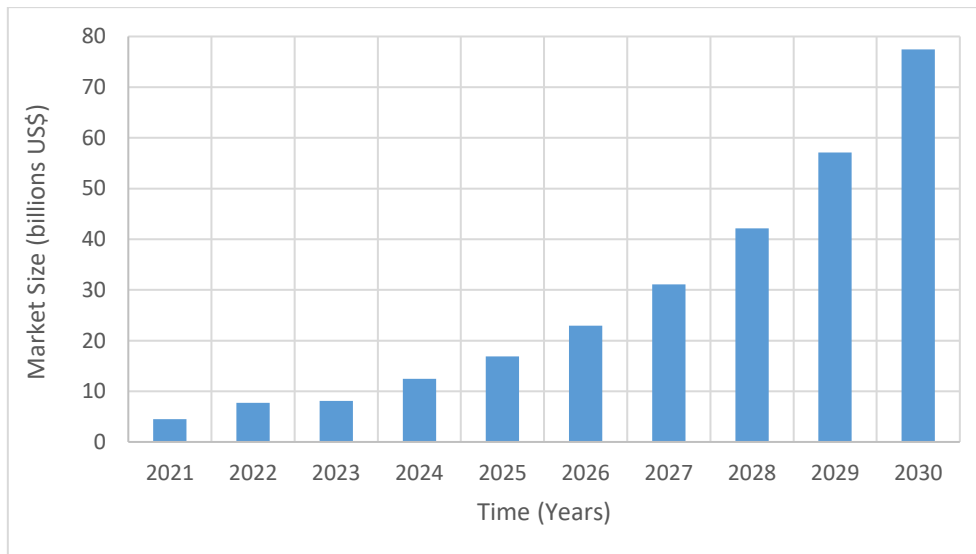

Figure 1. AR and VR Headsets Market Size*
The demand for immersive virtual reality (VR) and augmented reality (AR) experiences continues to accelerate, driven by advancements in display technology, sensor integration, and low-latency processing. Figure 1 shows the market size for VR and AR headsets, collectively referred to as extended reality devices, over recent years and their projected growth in future years.